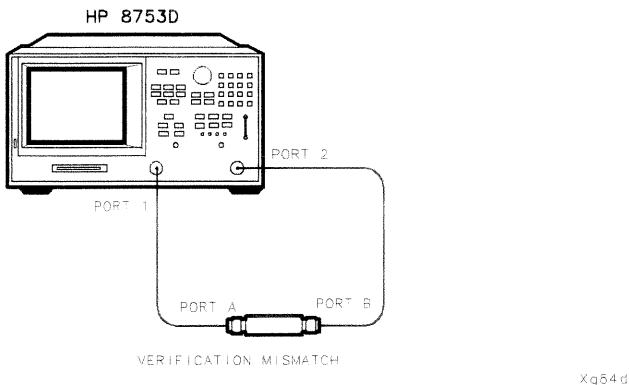

Figure 2-6. Mismatch Device Verification Setup
36. When all measurements are complete, replace the verification device with the verification mismatch, as shown in Figure 2-6. Be sure that you connect Port A of the verification mismatch to reference test port 1.